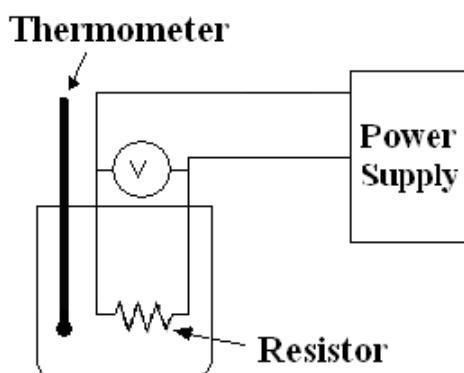
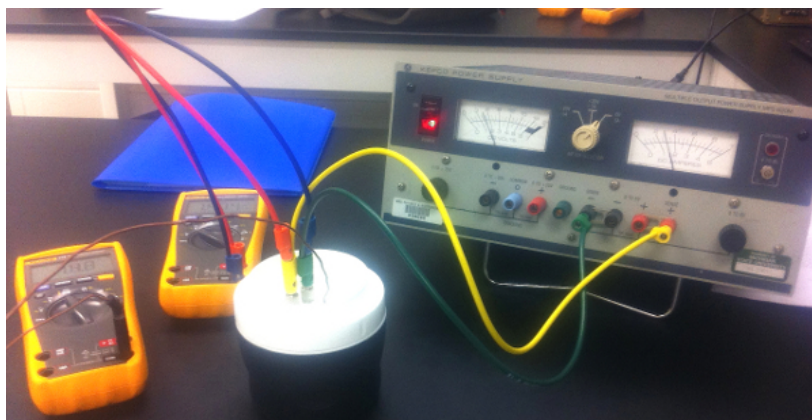

Figure 3.5: Setup.
Figure 3.6: Setup.
4. **Connect the circuit as in Fig. 3.5.** One multimeter is now acting as the thermometer, and another is acting as a voltmeter. See Fig. 3.6 for a picture of a working setup.